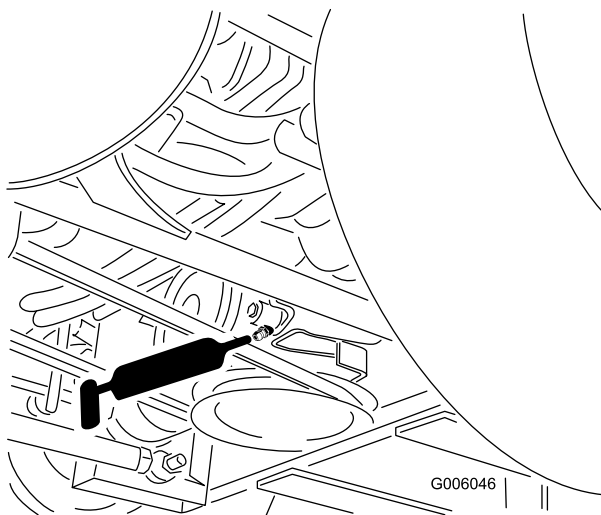

Figure 31
6. Grease the PTO drive belt idler arm (Figure 31).